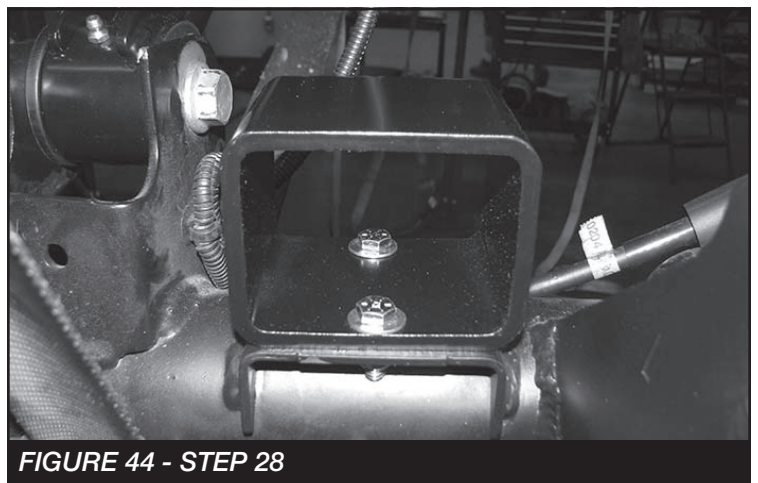

FIGURE 44 - STEP 28
28. Locate FT50724 Rear Bumpstop Spacer. Position the spacer onto the factory bumpstop pad on the axle and attach with the supplied 5/16" x 1" bolts and hardware (mount the spacer to the axle with the offset of the spacer to the front of the Jeep) **SEE FIGURE 44**